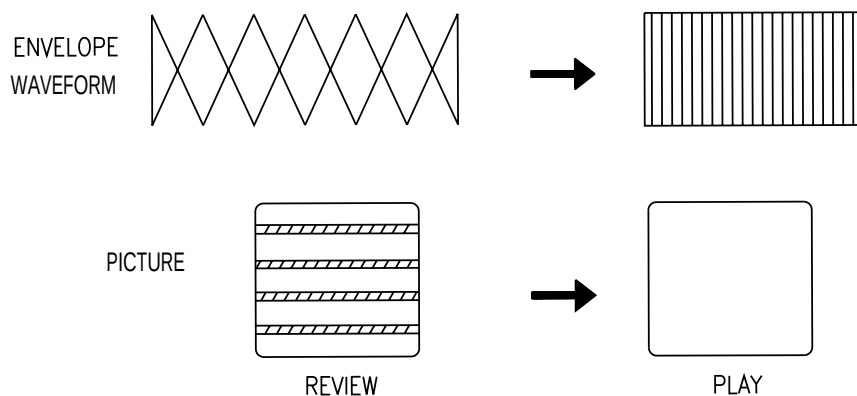

Fig. 5-10 CHECK OF TRANSITIONAL OPERATION (FROM REVIEW WAVEFORM TO PLAY WAVEFORM)
I. REVIEW →PLAY (See Fig. 5-10)